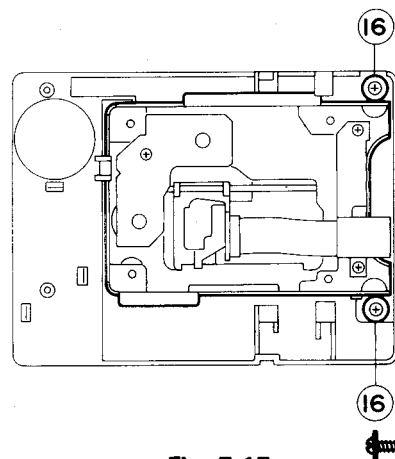

Fig. 7-17
■ How to Remove the CD Mechanism (Refer to Figs. 7-17, 7-15 and 7-18)
4. Remove the two screws (16) retaining the C.D. mechanism.
(Refer to Figs. 7-17, 7-18 and 7-19)